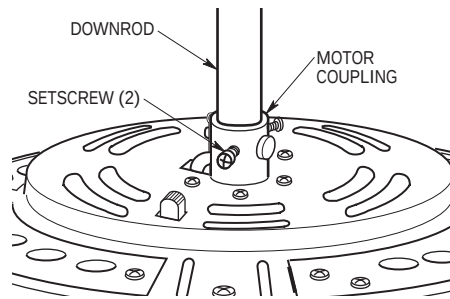

Figure 8
- 9. While pulling up on the downrod, securely tighten the two setscrews in the motor coupling (Figure 8).